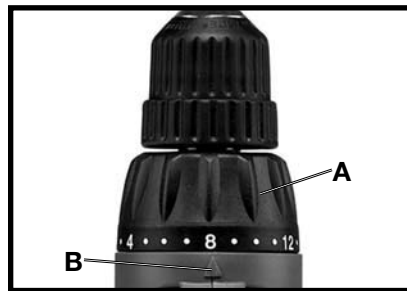

Fig. 3
The clutch unit provides twenty-three clutch settings plus a “Drill” (solid-lockup) setting. Lowest torque is available at setting #1, with maximum torque available at the “Drill” setting. The amount of output torque may be adjusted by rotating the front collar (A) Fig. 3, so that the desired torque setting is aligned with the index mark (B) Fig. 3.
(B) Fig. 3. In general, lower torque settings are used for driving small screws and other delicate work, while higher torque settings are used for driving larger screws. The “Drill” position is used for drilling and for driving very large screws.